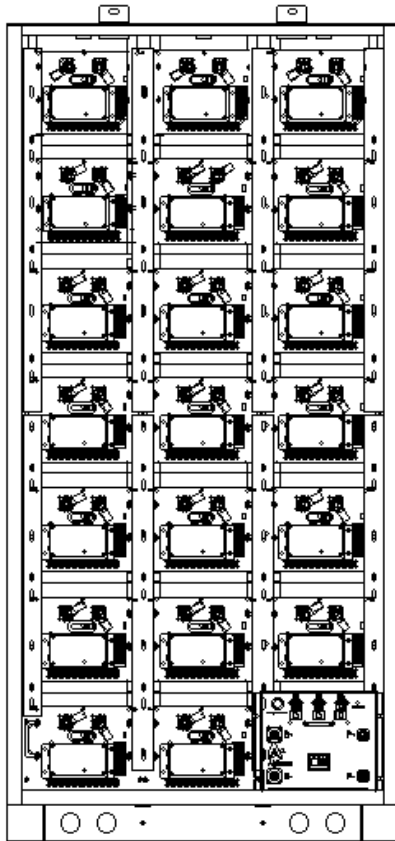

Figure 3-11 Placement of a Cluster of
Step 4: Place the same cluster of batteries on the same battery rack, with serial numbers 01 to N, and secure the batteries to the battery rack using matching screws. After installing a battery rack, please check if the installed batteries have the same cluster number. Taking a cluster of 20 batteries as an example, the placement positions are shown in Figures 3-11 and 3-12.